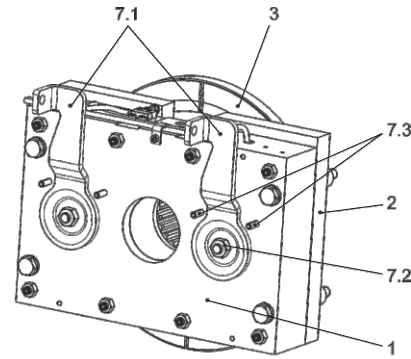

Fig. 6 (Hand release for Bowden cable)
The brake is released by moving both hand release levers simultaneously (7.1), see Figs. 6 and 7. The armature disk (2) is attracted to the coil carrier (1); the rotor (3) is then free and the brake is released.